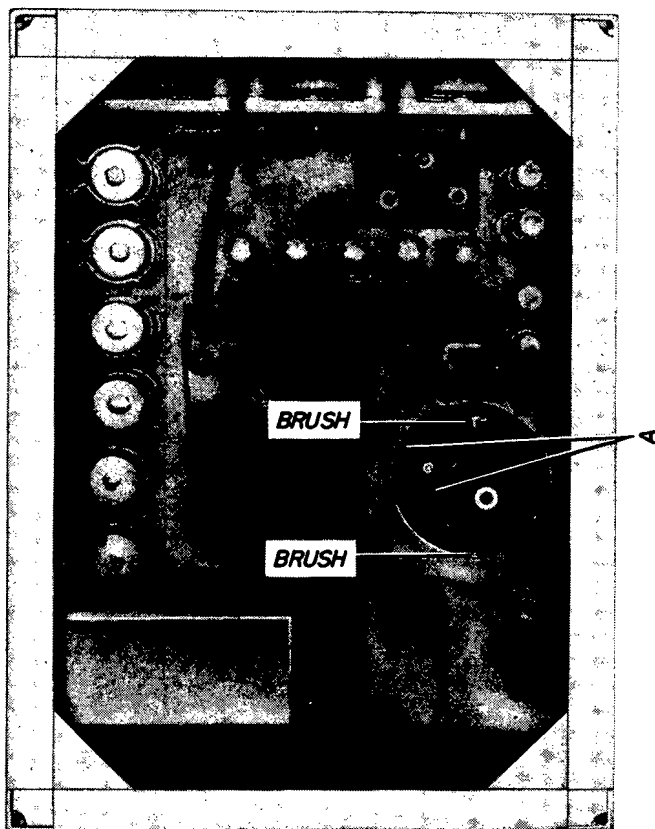

Figure 6-17. Lubrication of Keyer Unit
b. The brushes in the switch drive motor in the Keyer Unit are shown on the lubrication diagram in Fig. 6-17. The brushes are accessible from the bottom of the unit. They are removed by unscrewing the brush caps shown and pulling out the spring and brush.
(1) The only part of the Keyer Unit requiring lubrication is the switch drive motor B-151. The Keyer Unit must be pulled out far enough to gain access to the Motor. If an oil can with a straight spout is used, the Keyer must be removed completely. There is an oil hole at each end of the motor as shown in Fig. 6-17. Lubricate the bearings as directed in the figure.